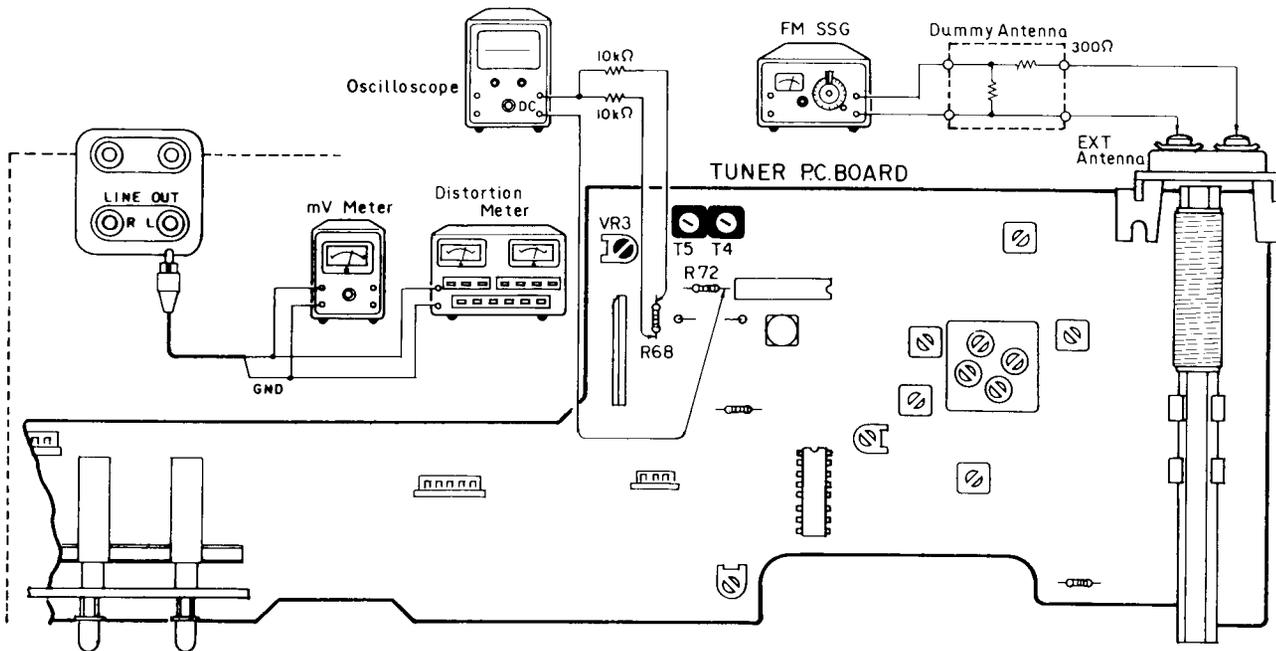

Fig. 44
• Connection Diagram (Shown in Fig. 44)